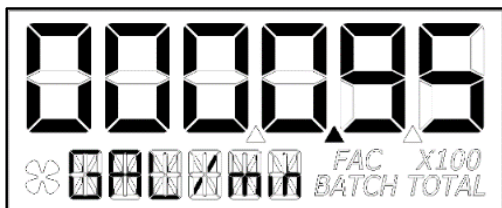

Figure 29-2
**NOTE:** Figure 29-2 shows the display when changing “zero” or 4mA Flowrate Settings.